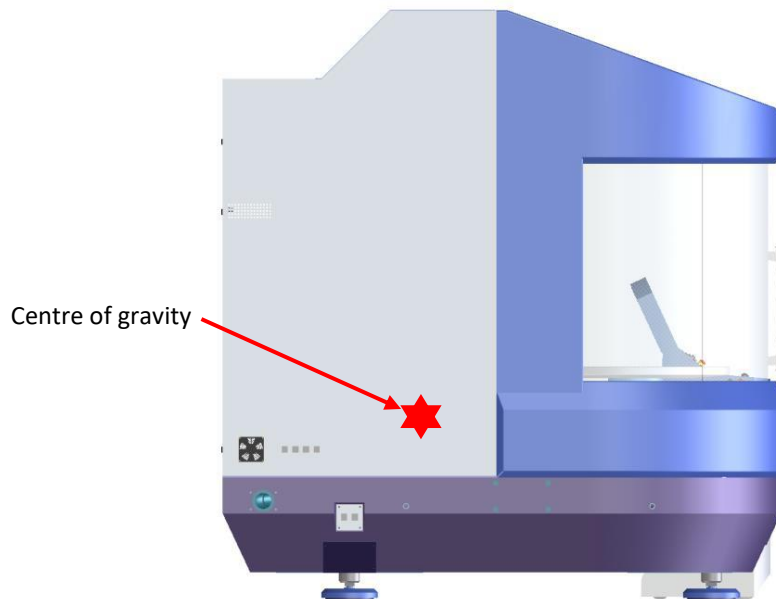

Figure 3 - Centre of gravity
- Note the centre of gravity shown in (Figure 3). Risk of Tipping Over!
ATTENTION: Please note the centre of gravity. See (Figure 3).